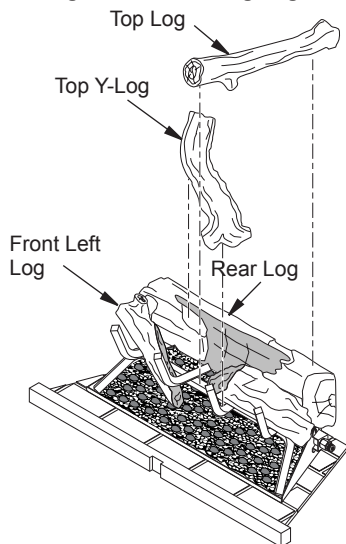
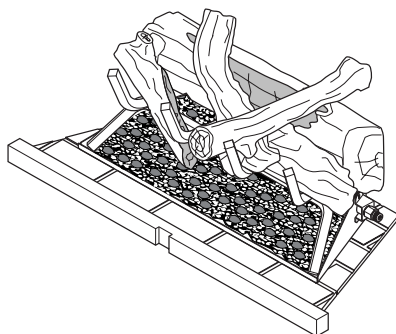

Figure 29 - Installing Logs 4 and 5
Figure 30 - Logs Installed
4. Place top of log 4 into notch on log 1. Rest log 4 on the center of grate as shown in Figure 29.
5. Place top of log 5 into notch on top right of log 1 (see Figure 29). Rest log 5 between two middle grate fingers as shown in Figure 30.